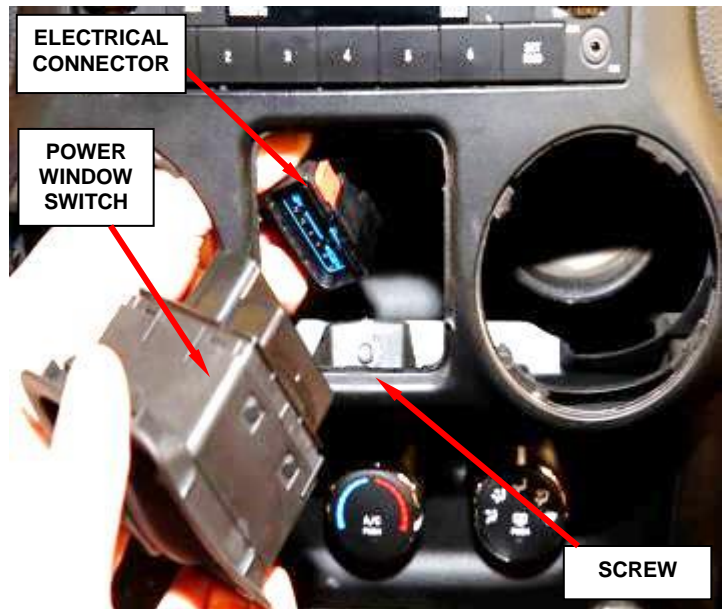

Figure 81 – Power Window Switch
- 14. If equipped with power windows, using a Trim Stick C-4755 or a suitable flat bladed tool, gently pry the switch assembly away from the instrument cluster bezel (Figure 81).
- 16. Disconnect the switch assembly electrical connector and remove the switch (Figure 81).
- 17. Remove the screw from the power window switch opening (Figure 81).